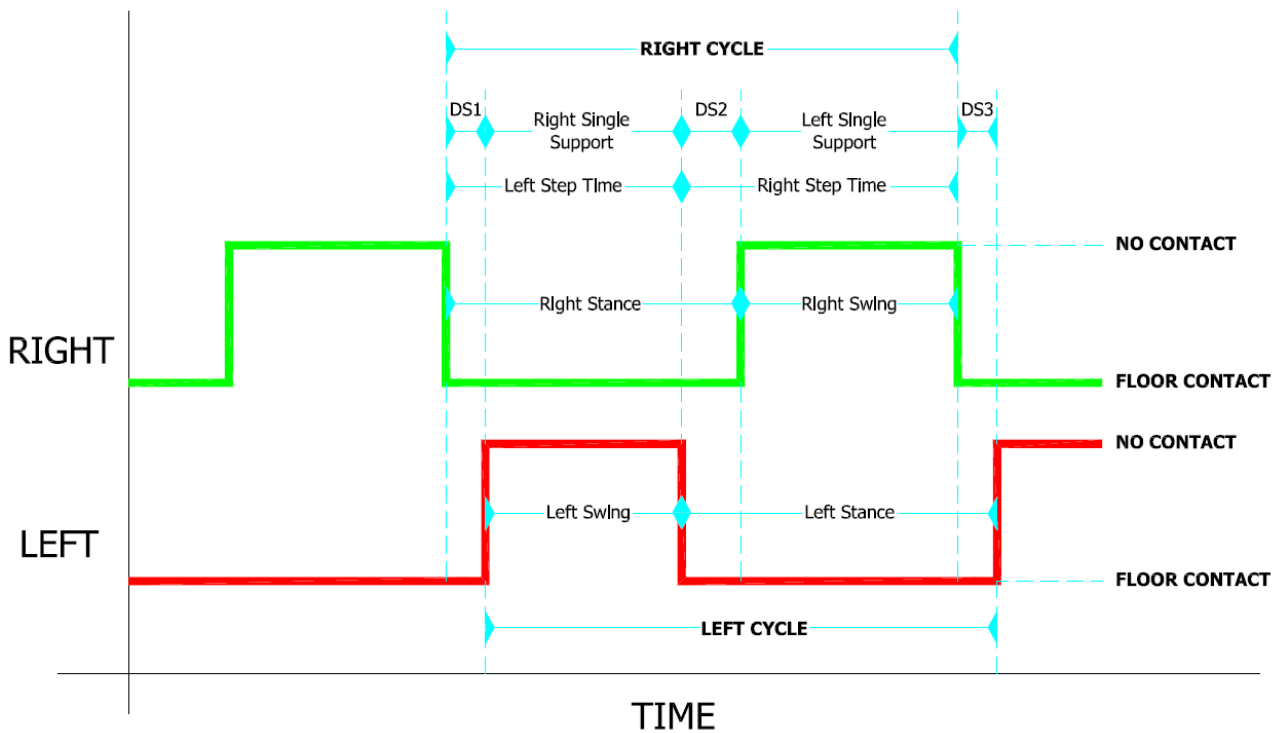

Figure 115 - Gait analysis terminology
Each gait cycle consists of two phases, where both feet are in contact with the ground, called **Double Support**. The first Double Support (DS1 in Figure 115 - **Gait analysis terminology**
- **Total Double Sup [s | %]:** This is the sum of two partial double supports, defined as DS1 and DS2 in Figure 115 - Gait analysis terminology